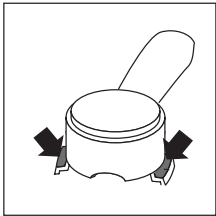

fig. 15
**Note: to ensure a tight fit and avoid water leaking from the rim of the filter holder, you are recommended to grease the bottom of the lateral tabs from time to time with butter or oil (as shown in fig. 15).**